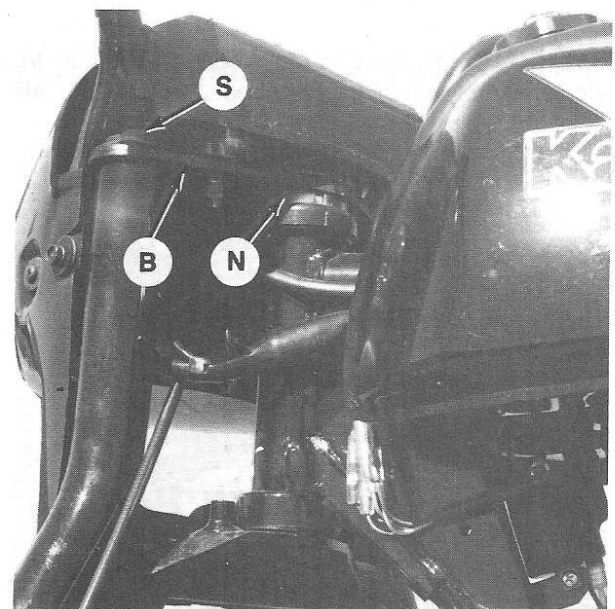

Fig. K4-20—View of steering head assembly. Rotate slotted nut (N) to adjust steering play. Refer to text.
**OVERHAUL.** To separate the steering stem and fork assembly from the frame's steering head, proceed as follows: Remove the front wheel and axle assembly, fuel tank, handlebars and headlight. Remove bracket screws (S—Fig. K4-20), steering stem screw and remove steering bracket (B). Unscrew slotted nut (N), then remove dust cover and bearing race from the steering stem. Note that the steering stem is now loose and the bearing balls may fall out. Lower the steering stem and fork assembly away from the steering head while being careful not to lose any loose bearing balls.